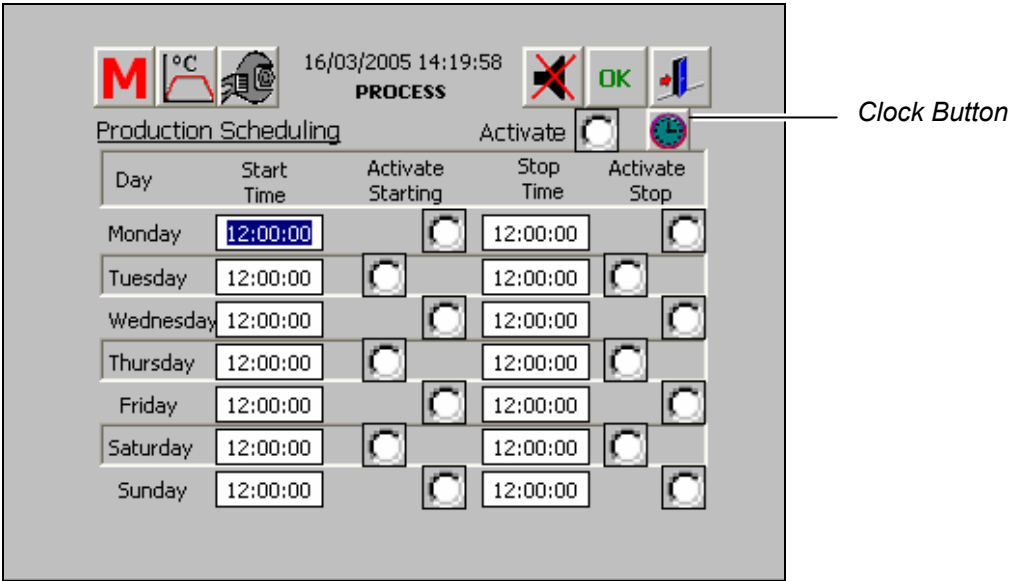

Figure 6-33 Production Scheduling Screen – Clock Button
2. The Production Scheduling screen appears. Click on the **Clock** button (Figure 6-33).